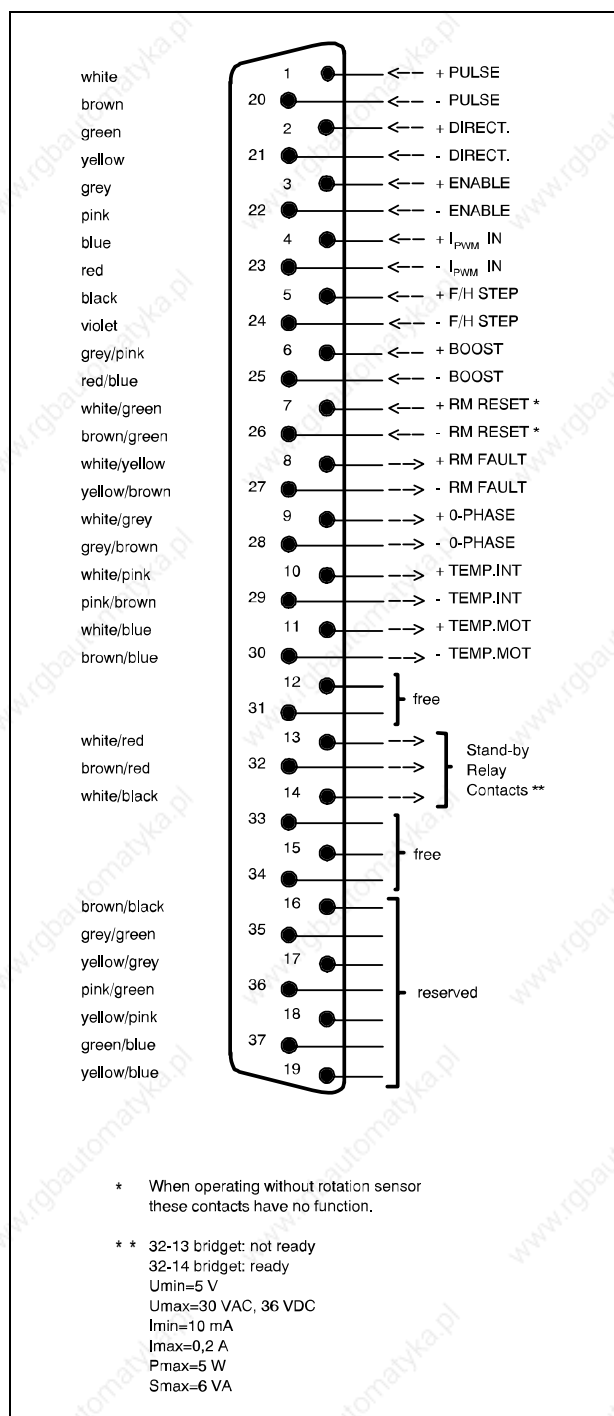

Figure 2-6 Wiring the Signal Socket
1. Twist the wires of the signal cables in pairs and solder them onto the 37 pins Sub-D-socket, according to figure 2-6.